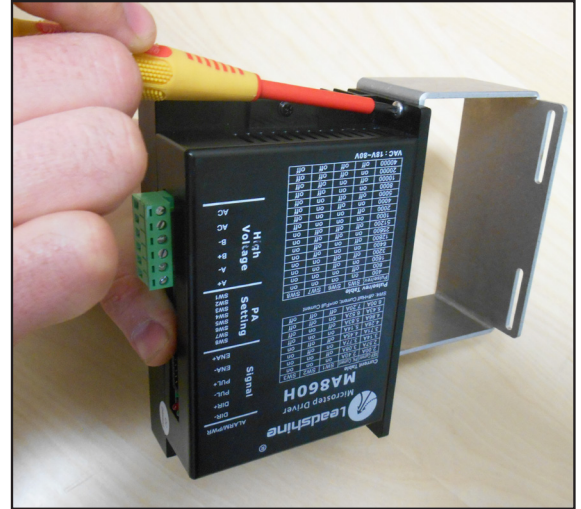

Figure 3
4. Use the two provided Screws to attach the *Axis Driver* to the *Bracket* (see **Figure 3**).